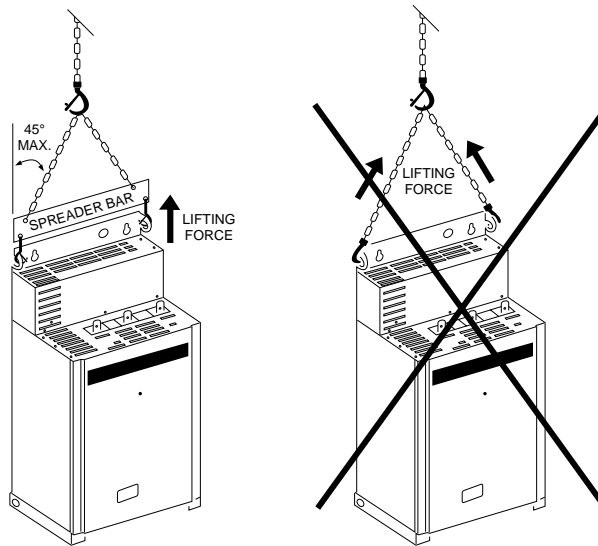

Figure 1-1 Hoisting the 60 to 150 hp Controller
- With a hoist, attaching a spreader bar to the two lifting rings on top of the drive controller as shown in Figure 1-1, or
<p>HAZARD OF SEVERE PERSONAL INJURY OR DEATH. Keep area below any equipment being lifted clear of all personnel and property. Use lifting method shown below in Figure 1-1. Failure to observe these precautions can result in severe personal injury or death!</p>